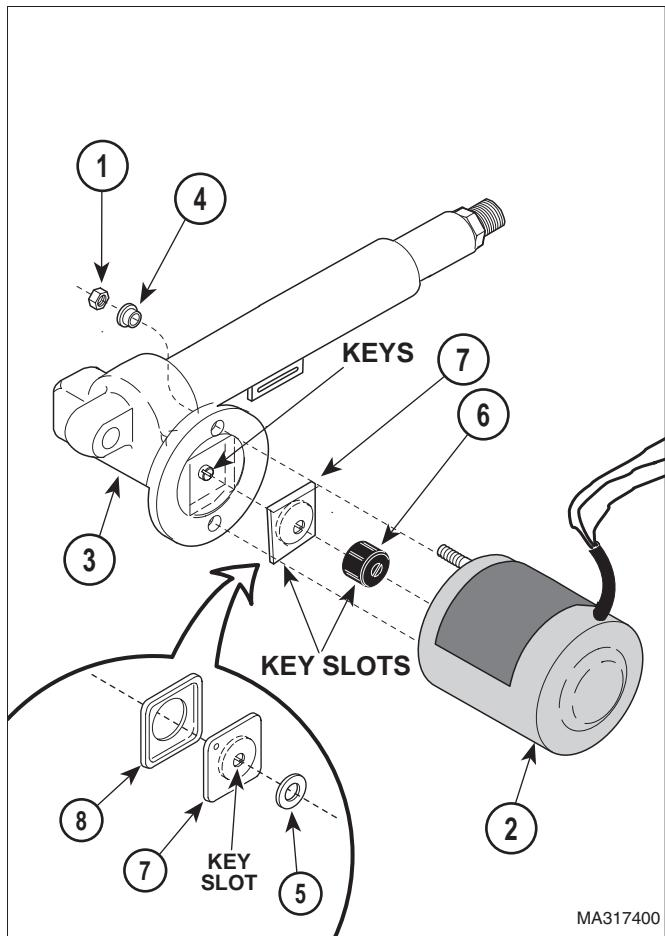

Figure 4-9. Typical Actuator Motor / Actuator Brake Removal / Installation
- (1) Remove malfunctioning actuator assembly: Seat actuator assembly (Refer to para 4.3). Base actuator assembly (Refer to para 4.6).
- (2) Remove two nuts (1, Figure 4-9) and actuator motor (2) from actuator mechanism (3).
- (3) Remove two shoulder washers (4) from actuator mechanism (3).
- (4) Remove spacer (5) and motor coupler (6) from shaft of actuator motor (2).